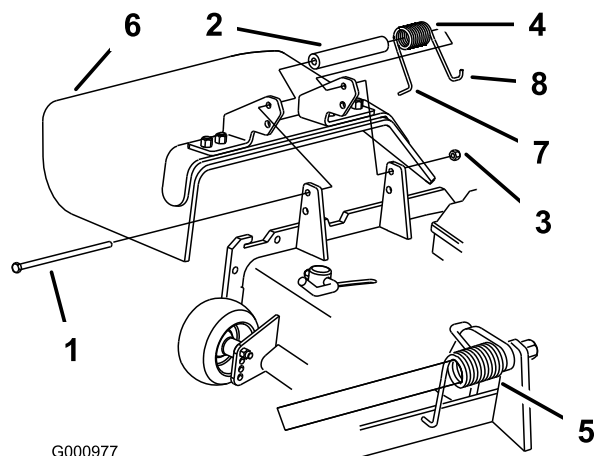

Figure 38
1. Remove the locknut, bolt, spring and spacer holding the deflector to the pivot brackets (Figure 38). Remove the damaged or worn grass deflector.
Note: Make sure the L end of the spring is installed behind the deck edge before installing the bolt as shown in Figure 38.
3. Install the bolt and nut. Place the J hook end of the spring around the grass deflector (Figure 38).